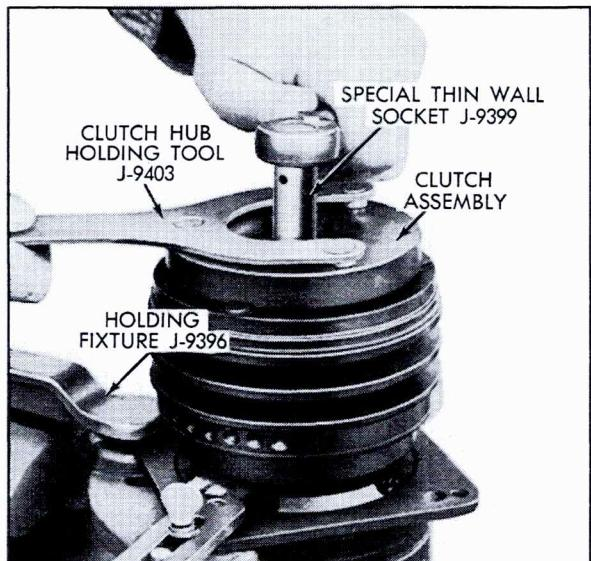
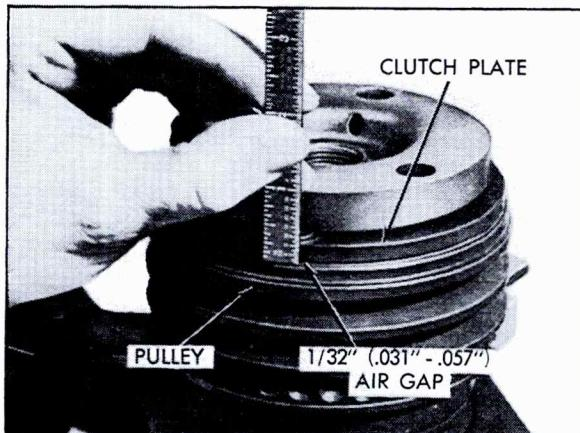

Fig. 1-37 Removing Lock Nut
Fig. 1-41 Checking Air Gap
2. Keep clutch hub from turning with Clutch Hub Holding Tool, J-9403, and remove locknut from end of shaft, using Thin Wall Socket, J-9399, Fig. 1-37.
10. Install a new shaft locknut with small diameter boss of nut against hub spacer, using special Thin Wall Socket J-9399, Fig. 1-37. Hold clutch hub with Clutch Hub Holding Tool, J-9403, and tighten nut to 15 foot-pounds torque, using a 0-25 foot-pounds torque wrench. Air gap between frictional surfaces of pulley and clutch plate should now be approximately 1/32 inch (.031 inch to .057 inch), Fig. 1-41.